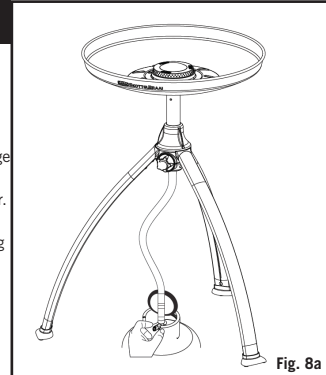

Fig. 8a
- The Control valve is closed by turning the control knob (K) clockwise to its “OFF” position and opened by pushing and turning anticlockwise.
- Adjust the flame intensity to the desired level by turning the Control knob (K) clockwise to decrease the flame and anti-clockwise to increase it (See Fig.8a & b).
- After use, first close the valve on the gas container (where applicable). When the flame has extinguished, close the valve on the appliance by turning the control knob (K) fully clockwise.
Lighting up using a match or BBQ lighter (See Fig. 8a and 8b)